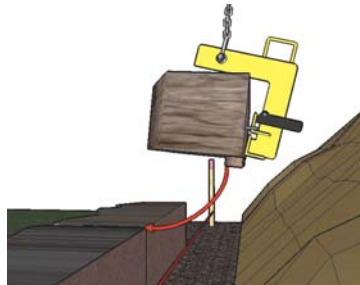

Figure 3 - Rosetta Lifting Device
Step 3 - Successive Courses: Successive courses are placed in a similar manner. The primary difference is that the shear heels of blocks in upper courses must be engaged with the backs of the blocks in the row below. Position each block behind and approximately 1/2" above the block in the course below (see Figure 3).